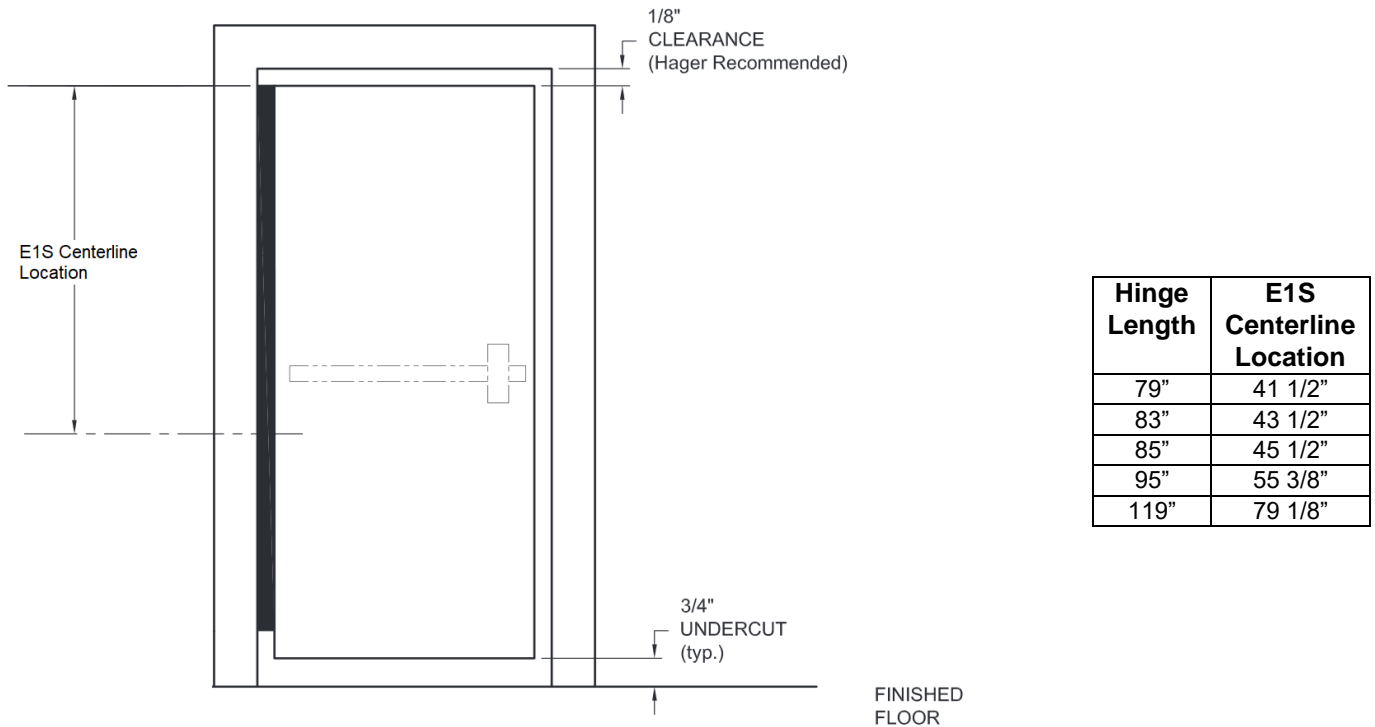
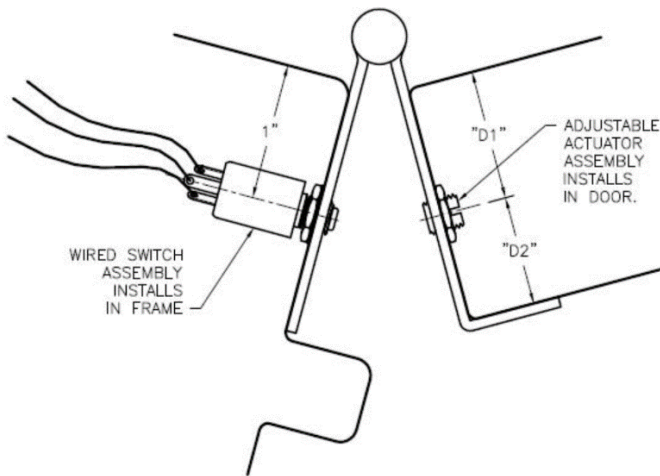

Figure 1
Figure 2
2. Using the hinge length; utilize Figure 1, Figure 2 and the table below to find the correct hole center mark location for your door and frame. Dimensions below are based on Hager’s standard E1S centerline locations and the industry standard of 1/8” clearance between the top edge of the door opening and the top edge of the door.